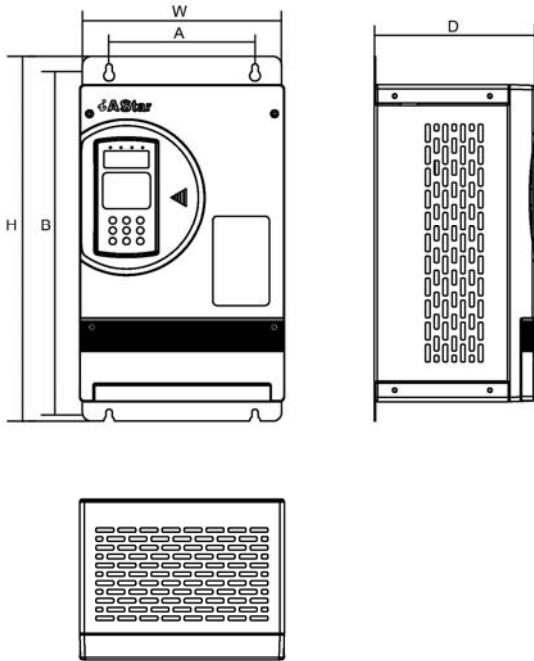

Fig. 2.1 Installation dimension and quality of inverter
For installation dimension and quality of inverter, see Fig. 2.1 and 2.3.
- 1) Confirm 4 installing holes on the inverter, install 2 screws at upper first according to Fig. 2.1 – Installation dimension and quality of inverter, notice: do not tighten and leave blank of a few mm;